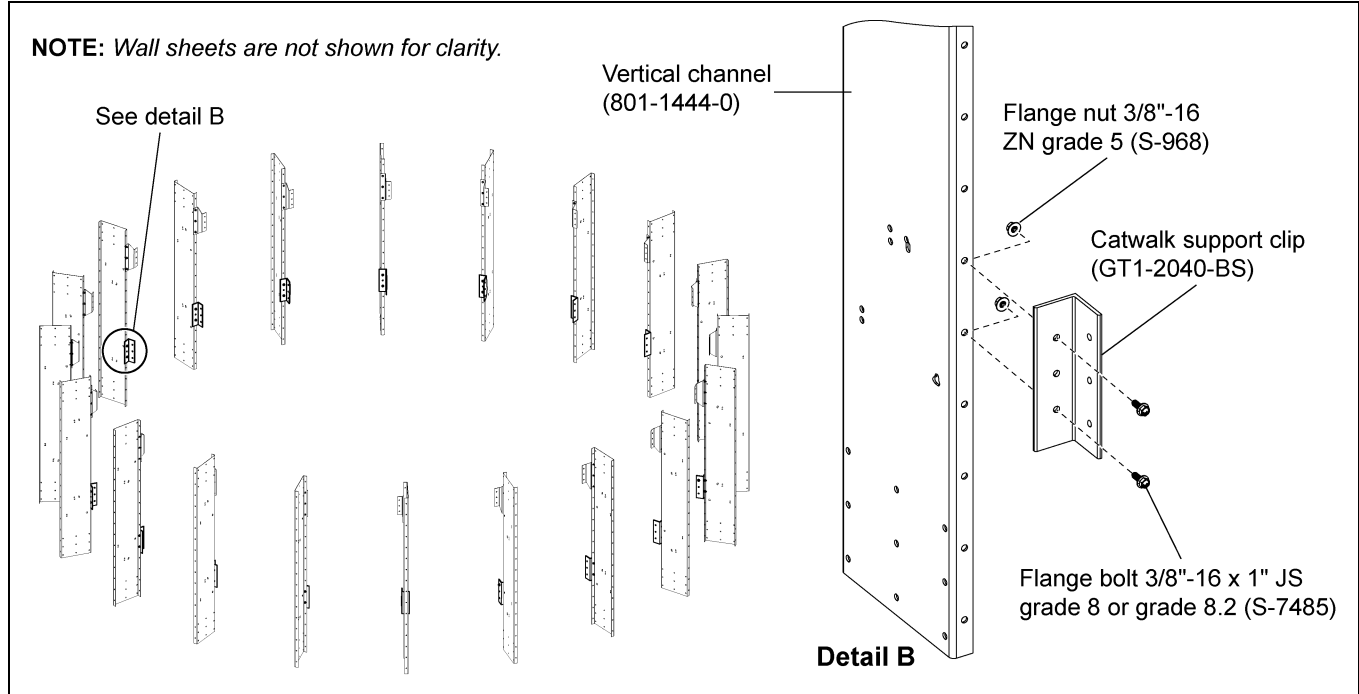

Figure 5B
1. Install catwalk support clips (GT1-2040-BS) to vertical channels (801-1444-0). Support clip can be installed on each vertical channel as the inner wall sheets are installed using 3/8"-16 x 1" JS grade 8 or grade 8.2 bolts (S-7485) and 3/8"-16 ZN grade 5 nuts (S-968). *(See Figure 5B.)*